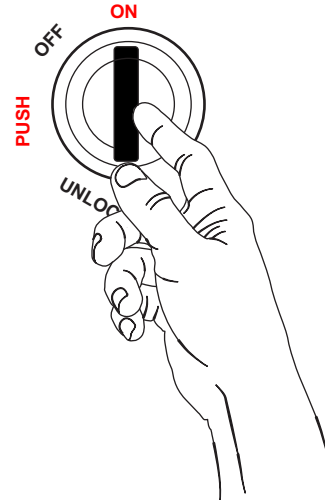

Figure 18. Key Switch ON Position
5. Place key switch in the **ON** position (Figure 18) and verify that drum begins to rotate clockwise as viewed from the operator's position.